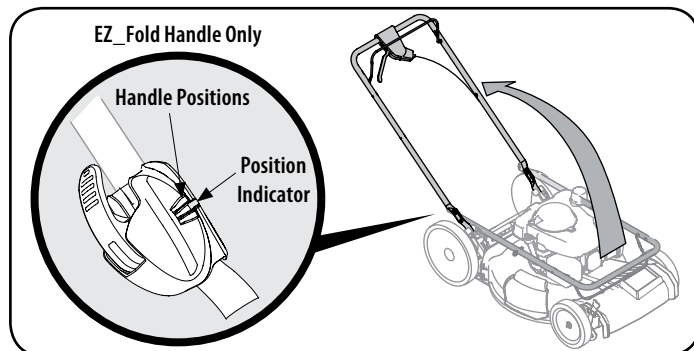

Figure 3
3. While stabilizing mower so it doesn't move, lift the upper handle up as shown in Figure 3. Do not crimp cable while lifting the handle up.
NOTE: EZ-Fold handles only - When lifting the upper handle ensure the position indicator aligns with one of three handle positions. See Figure 3 inset.